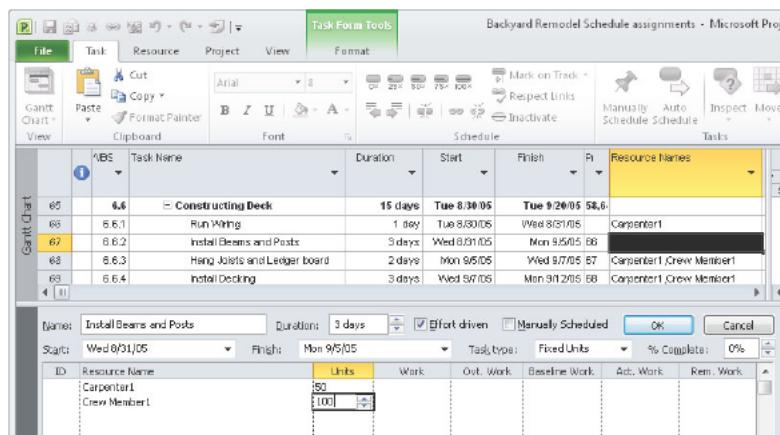

FIGURE 6-9 You can specify resources units or the number of hours they work.
3. If you want to assign a resource at a specific unit percentage, click the Units cell in the same row and type the percentage, such as 50 percent for Carpenter1 in Figure 6-9.